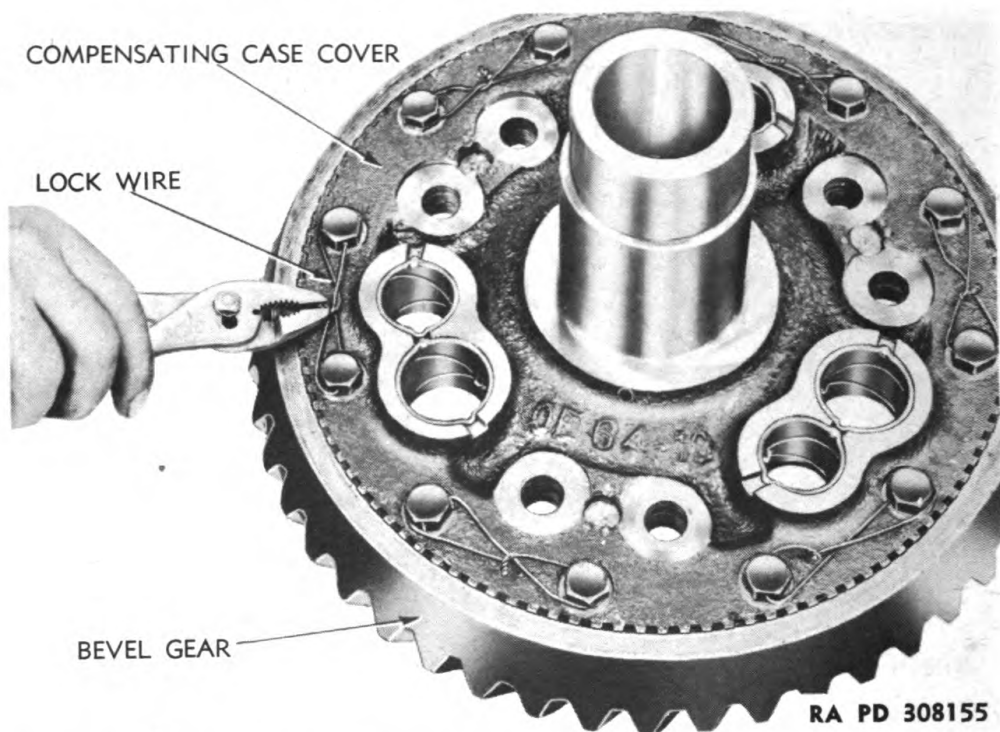

Figure 53 — Installing Bevel Gear on Compensating Case Cover
(4) **ASSEMBLE DIFFERENTIAL GEAR ASSEMBLY.** Lay bevel gear on bench, line up bolt holes in bevel gear with those in left compensating case cover and lower cover into gear. Attach to gear with 12 drilled head cap screws. After cap screws are tightened securely, install lock wire in each pair of cap screws, crossing wires (fig. 53).